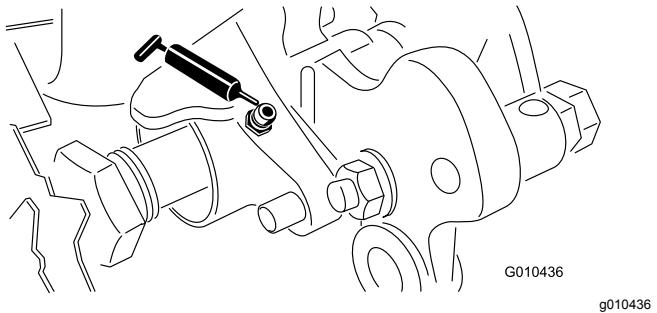
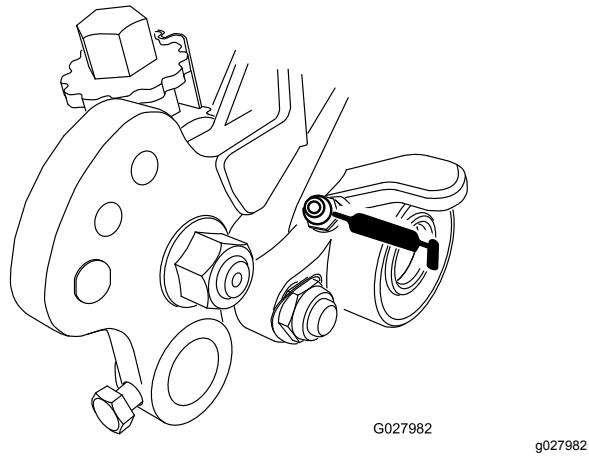

Figure 16
Figure 17
**Note:** Lubricate the groomer bearings (Figure 17 and Figure 16) weekly or after every 10 operating hours, before extended periods of non-use and immediately after every washing.